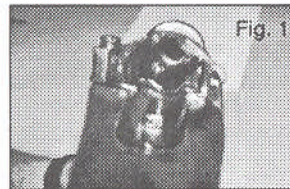

Fig. 1
- Fig 1: While keeping the rifle pointed in a safe direction at all times, make sure the rifle receiver and action are free of debris....While the bolt is out look inside barrel from the receiver end to assure that the gun is free of debris, if you find debris clean before firing and assembly